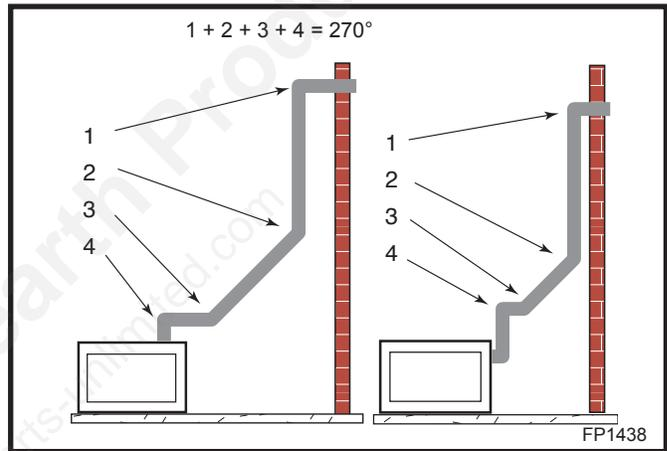

Fig. 23 Maximum elbow usage.
- The maximum number of 45° elbows permitted per side wall installation is two (2). These elbows can be installed in either the vertical or horizontal run.
- The maximum number of elbow degrees in a system is 270°. Example shown in Figure 23: